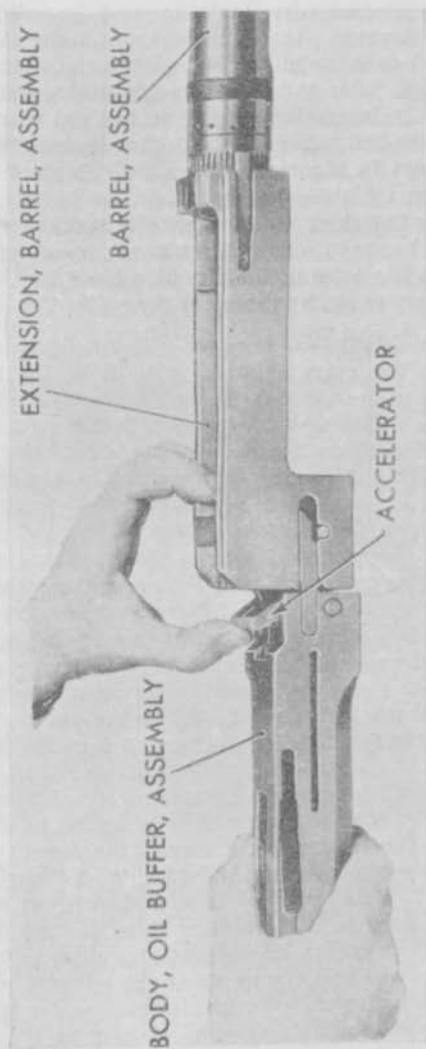

FIGURE 9.—Detaching the oil buffer group.
55. REMOVING GROUPS FROM GUN.—The cover may be removed or left assembled to the gun as desired. To remove the cover, release the cover latch and raise the cover. Withdraw the cotter pin from the cover pin. Pull out the cover pin and remove the cover. Release the backplate latch lock and latch and lift out the backplate. Press forward and away from the side plate on the end of the driving spring rod to release the retaining pin in the head of the rod from the hole in the side plate. Draw the bolt to the rear until the bolt stud can be withdrawn through the opening in the right side of the receiver of the gun. Remove the complete bolt from the rear end of the casing. Compress the oil buffer spring lock, using a cartridge point inserted through the hole in the right side plate, and remove the oil buffer, barrel extension, and barrel assembly from the rear of the casing. Detach the oil buffer group from the barrel extension by pressing the accelerator forward. (See fig. 9.)